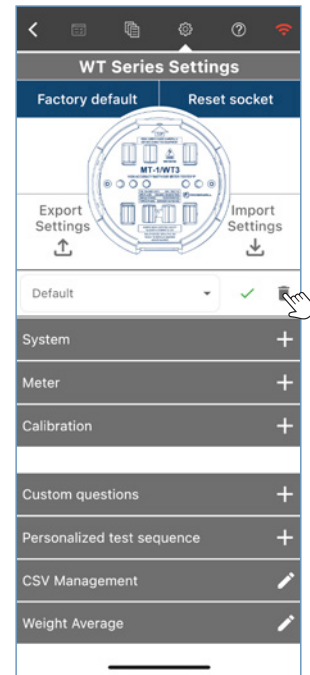

Figure 4
- Delete a profile:** To delete a profile, select the name of the profile from the drop-down menu and tap the garbage can 🗑️ to delete it (Figure 4).